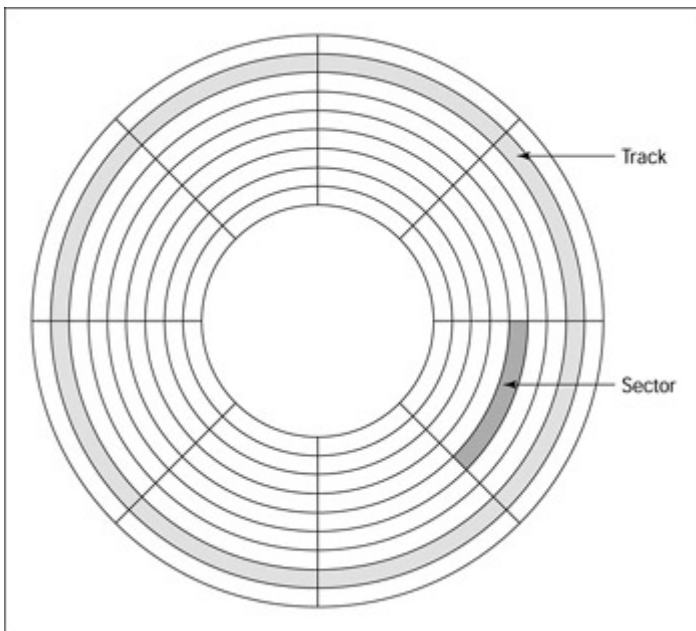

Figure 9-3: A disk platter divided into tracks and sectors.
- 1 **Tracks:** A track is a concentric circular area of the disk that is discrete to all other tracks (see Figure 9-3). A length of a track is one circumference of the disk. On a hard drive, there may be 1,000 or more tracks. When data is written to the disk, it begins with the outermost track first.
- 1 **Sectors:** A sector, shown in Figure 9-3, is a single segment of a disk created by cross-sectioning divisions that intersect all the tracks. In addition to dividing each track into manageable pieces, sectors provide addressing references. Data can be addressed by its track and sector numbers, much like directions to a building located at the intersection of two major streets.